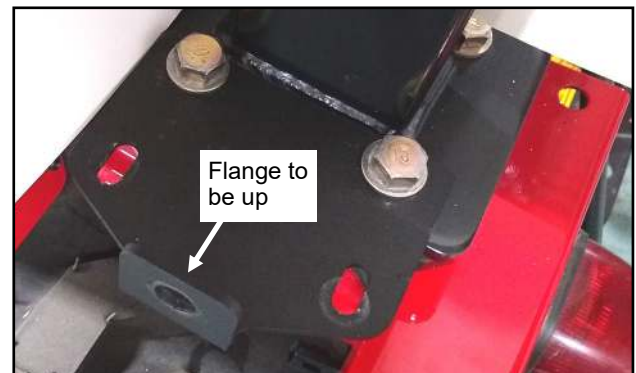

Fig. 4.1 (Rear Mount Bracket Orientation)
- 4.1 Using the fasteners that were removed during step 1.6, install the rear mount bracket on the left side of vehicle with the small flange facing up. See Figure 4.1.